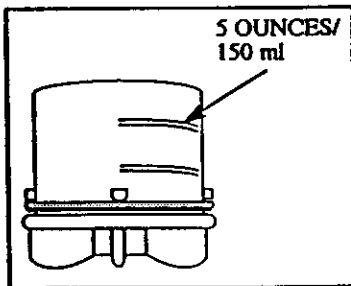

Fig. 4
- Measuring cup/cap on solution tank. Fig. 4